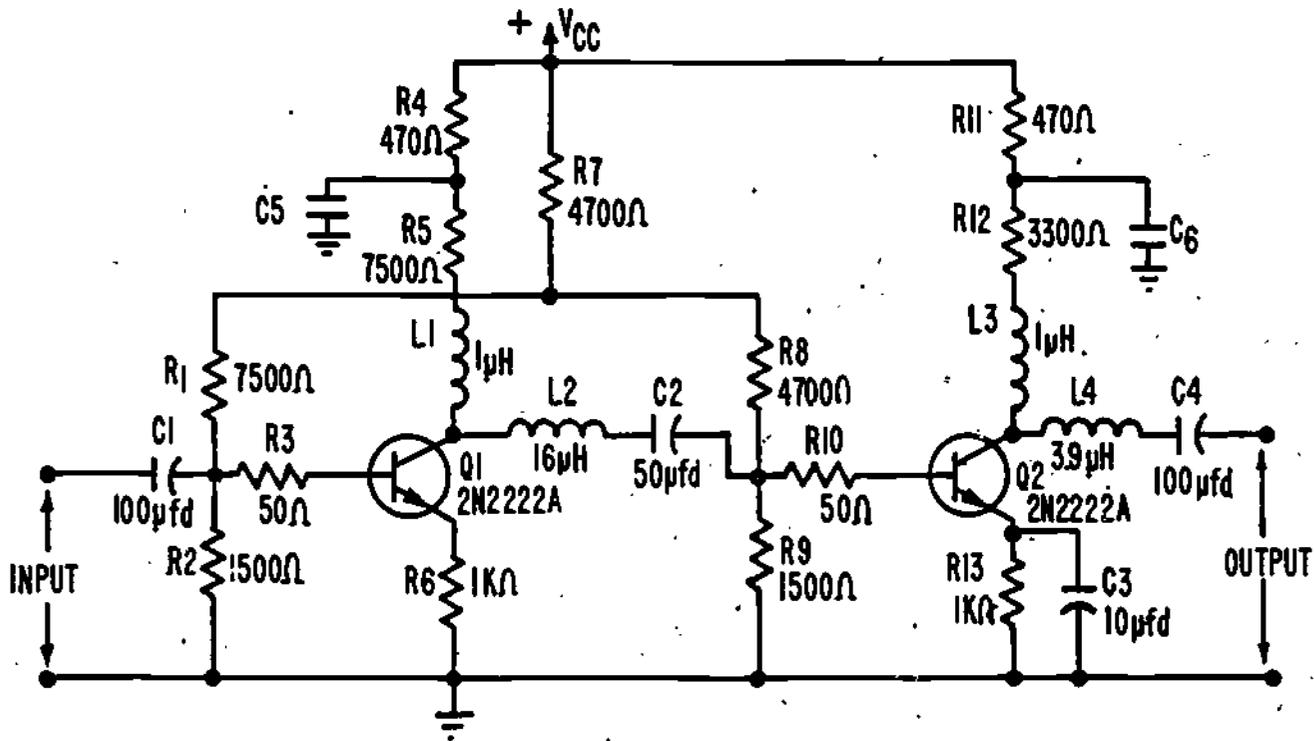

Figure 23
20. Now let's examine the function of the remaining components in the two-stage video amplifier circuit shown in Figure 23.
In Figure 23, R4-C5 and R11-C6 act to prevent the amplifier from (decoupling/oscillating), and R10 acts to (narrow/broaden) the bandwidth of the series compensation network.